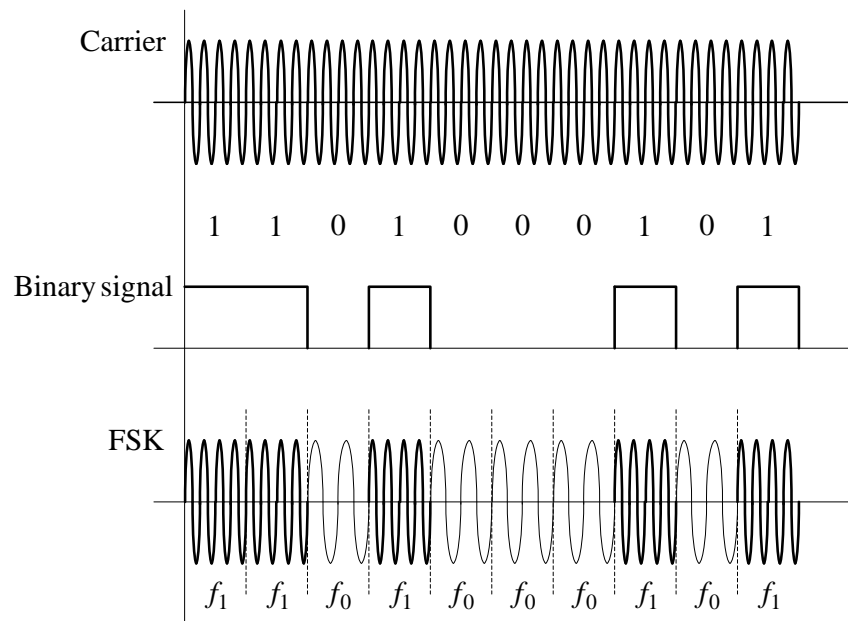

Fig.1 Frequency Shift Keying Signal
. The output from such a generator is shown in Fig.1. f_1 is called the mark (binary 1) frequency and f_0 is called the space (binary 0) frequency.
The block diagram of a phase locked loop (PLL) is shown in Figure 1. The principle of operation is simple. Suppose there is a non-modulated carrier at the input. If the VCO was tuned precisely to the frequency of the incoming carrier (ω_0), then the instantaneous output would be a DC voltage of magnitude depending on the phase difference between the output of the VCO and the incoming carrier. Now suppose the incoming carrier started to drift slowly in frequency, then the output voltage will vary according to the frequency variation. If the incoming carrier is frequency modulated by a message, the output of the PLL will follow the message.
2. Model the PLL demodulator illustrated in Figure 1.